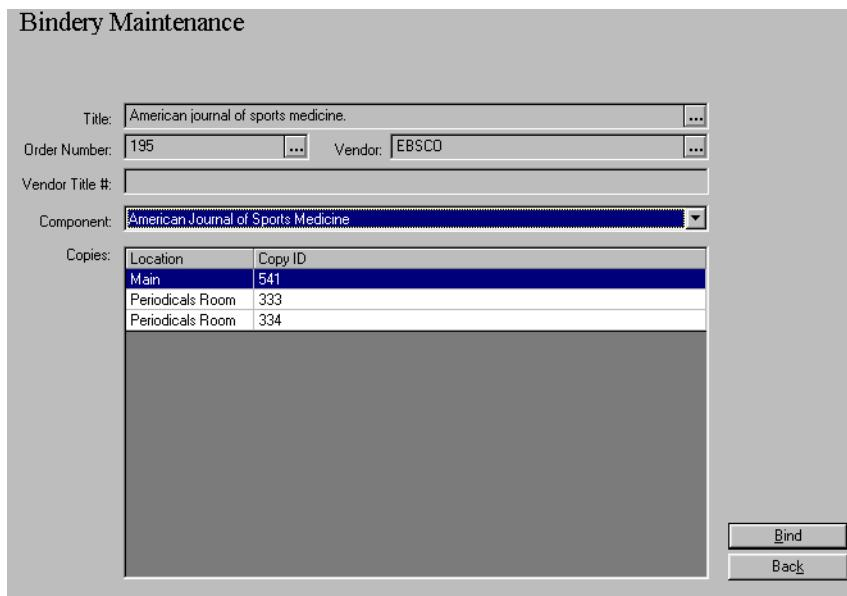

Figure 14-5. Component with multiple copies, Main and Periodicals
5. Select the appropriate copy from the **Copies** field if there is more than one copy and click the **Bind** button (see Figure 14-5).